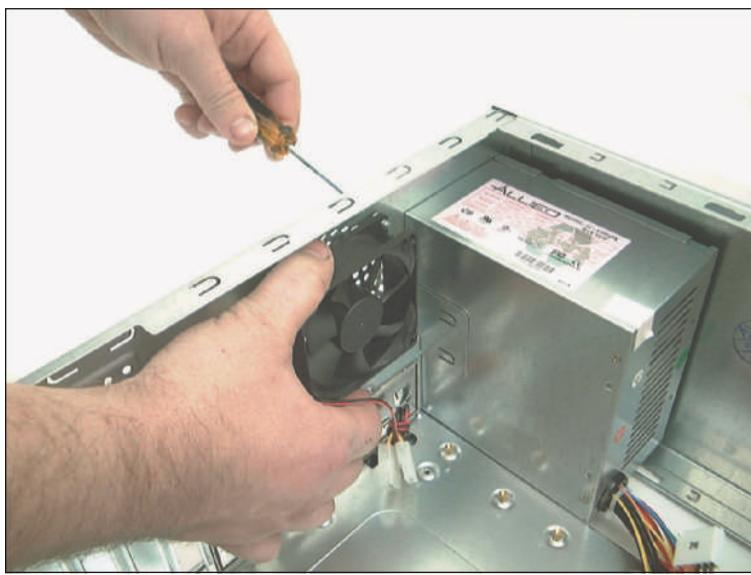
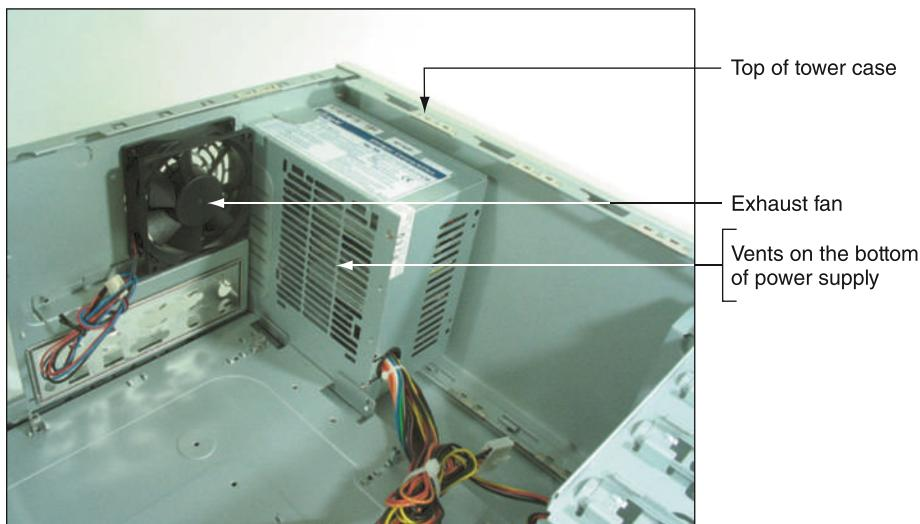

Figure 5-21 Install one exhaust fan on the rear of the case to help pull air through the case
Figure 5-26 This power supply has vents on the bottom to provide better airflow inside the case
3. Check airflow inside the case. Are all fans running? You might need to replace a fan. Is there an empty fan slot on the rear of the case? If so, install a case fan in the slot (see Figure 5-21). Orient the fan so that it blows air out of the case. The power cord to the fan can connect to a fan header on the motherboard or to a power connector coming directly from the power supply.
For better ventilation, use a power supply that has vents on the bottom and front of the power supply, as shown in Figure 5-26. Compare that with the power supply in Figure 5-21 that has vents only on the front and not on the bottom.